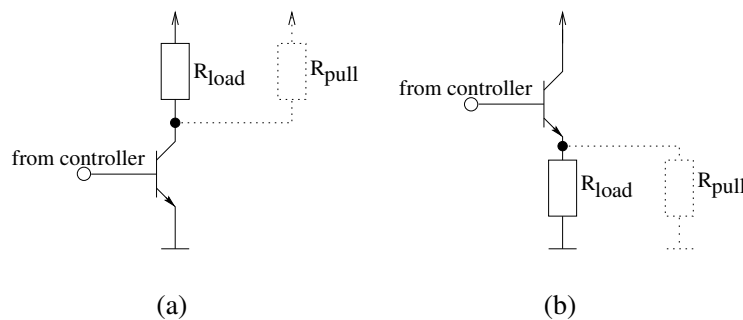

Figure 5.9: Transistor switch as npn common emitter (a) and npn emitter follower (b).
Although there are several ways to use a transistor as a switch, the most common one is the *npn common emitter* (CE) circuit depicted in Figure 5.9 (a). For reference, we have also included the less frequently employed *npn emitter follower* circuit in Figure 5.9 (b).